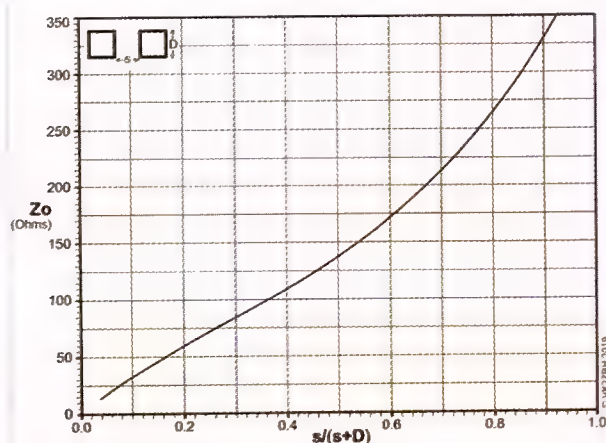

Figure 9. Zo versus the shape ratio for close-spaced square-section parallel transmission lines.
Image A: Illustrating the fields created around square-section, close-spaced parallel feedlines. In the larger figure, the encircling lines each show constant values of field strength, while the inset shows field intensity contoured in ‘false colour’. Note the field concentration at the points of each square section and between the parallel faces. Note, also, how the field strength falls away quickly the further out you go left and right, but doesn't decline as fast going up and down. The face-to-face spacing here (s) equals the side dimension of the square (D). Thus, the $s/(s + D)$ ratio is 0.5. From Figure 9, the impedance is about 134 ohms; it remains the same with feedlines of different sizes, provided you maintain the ratio. Images created by Andy VK3ES, Phasor Innovation Pty Ltd, www.phasorinnovation.com.
Figure 9 shows the "cubic for squares" plot without the clutter. Note that the curve does not reach the zero point. Accuracy deteriorates below about 15-16 ohms
The snake-bend of the curve in **Figure 9** would appear to derive from a balance between the strength of the field between the faces and the sum of the fringing fields surrounding the lines. At wide spacing, the fringing fields have proportionally more influence. As the spacing narrows, the between-faces field begins to dominate until it has the dominant influence.